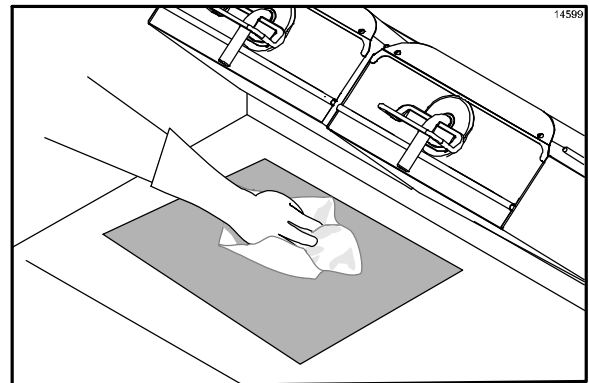

Figure 60
33. One at a time, place the upper and lower release sheets on the lower grill surface. Wipe both sides of each release sheet with a clean, sanitizer-soaked grill cloth. (See Figure 60.)